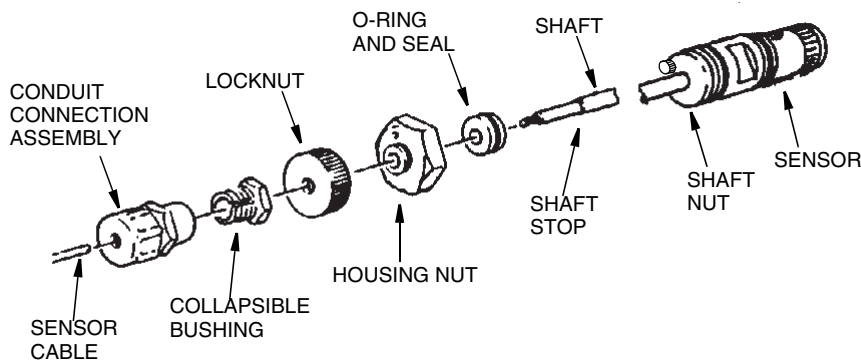

Figure 15. Assembly of Shaft Assembly
1. Feed the sensor cable through the shaft assembly, wrap Teflon tape on the threads of the shaft assembly, and join (finger tighten) the shaft assembly to the end of the sensor (see Figure 15).